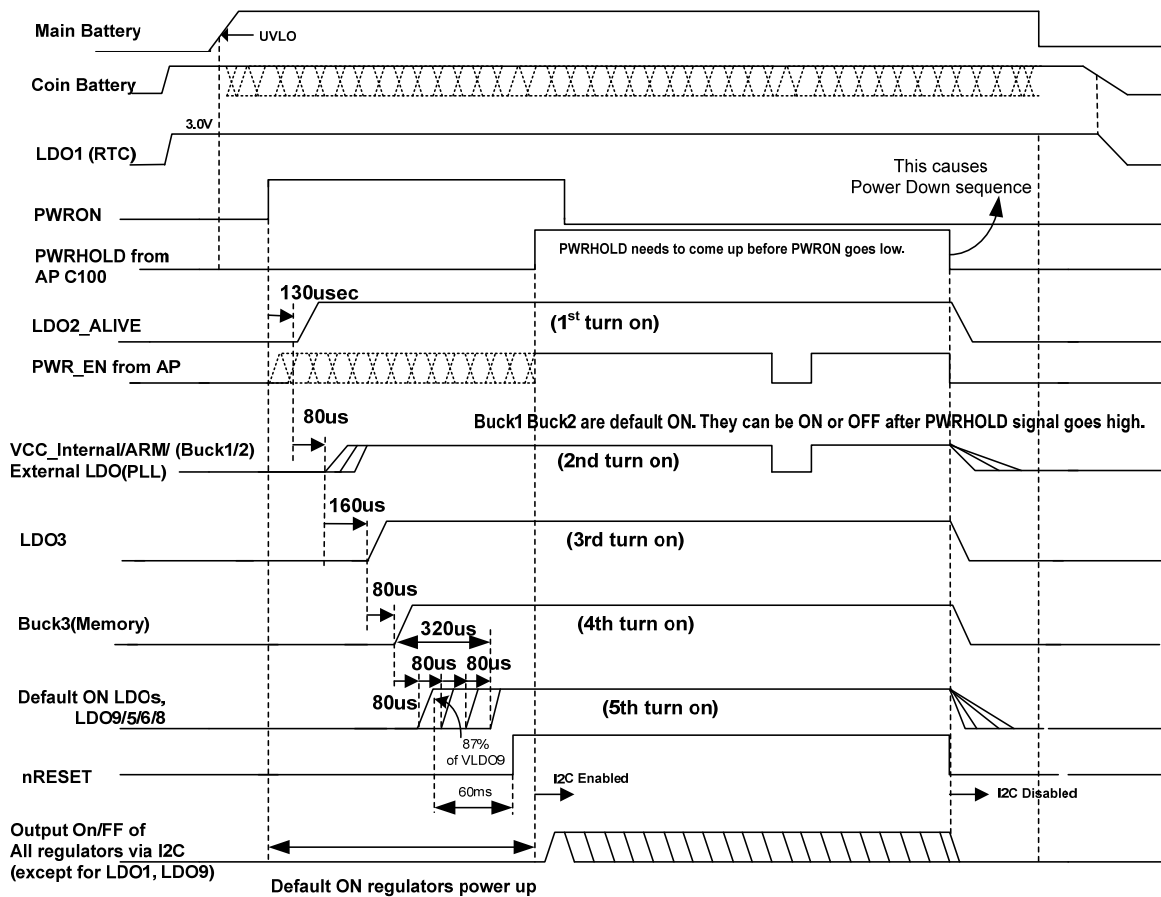
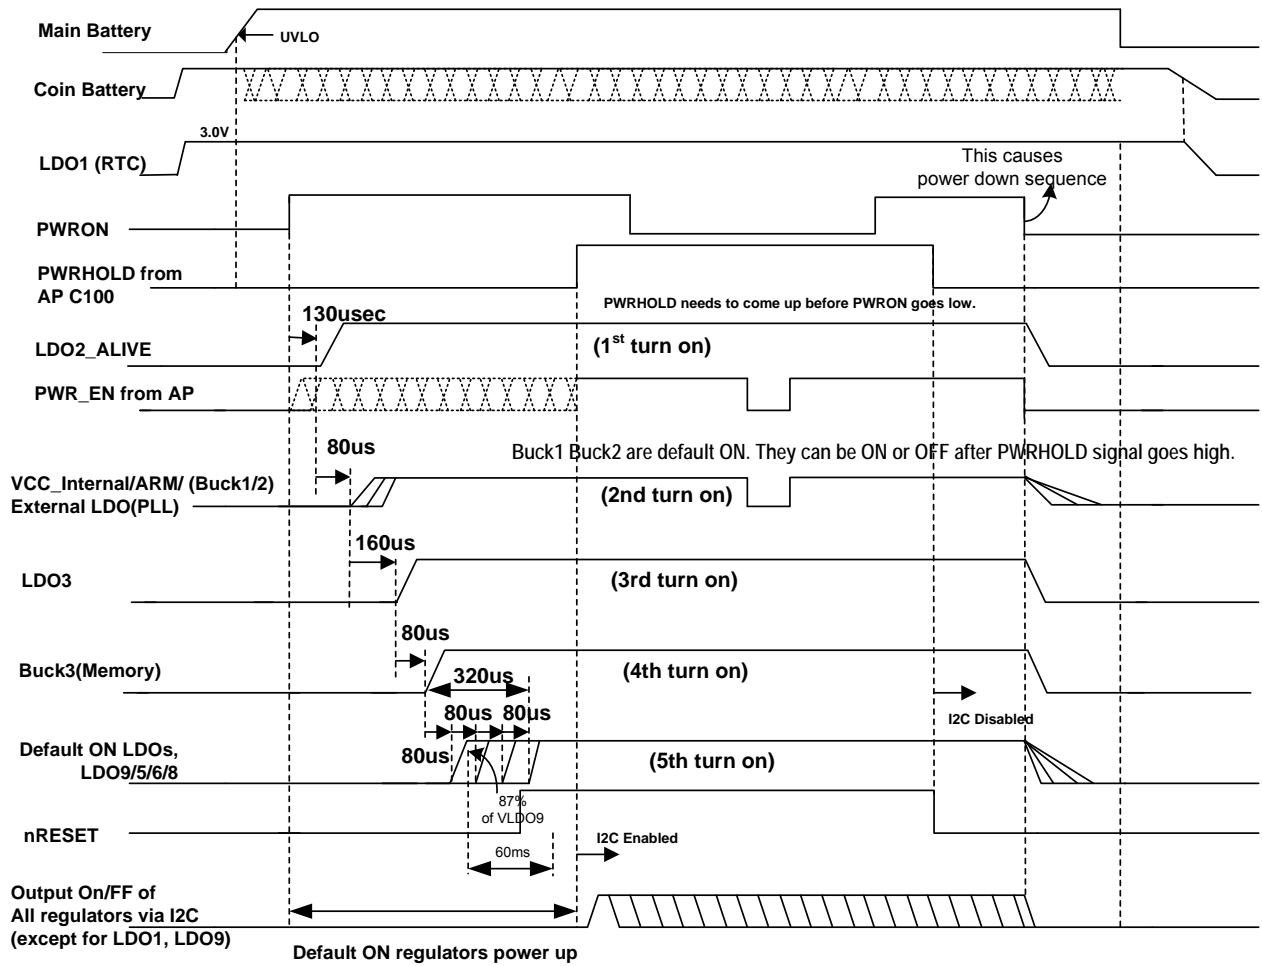

Figure 5. Power up/down sequence
Figure 6. Power up/down sequence
Note that the Samsung S5PC100 processor controls PWRON/SET1/SET2/SET3/PWRHOLD. Buck1/2 and LDO2 are logically connected to ensure Buck1/2 are powered up after LDO2. LDO2 can be enabled /disabled by only I2C during normal operation. See Figure 5 and Figure 6.
After I2C is enabled, all regulators can be enabled or disabled via I2C. In the figure6, LDO4/7 are turned on by I2C and can be turned off individually.
- Falling threshold level on PWRHOLD & Low level of PWRON switch (See Figure 5)
- Falling threshold level on PWRON & Low level of PWRHOLD (See Figure 6)
See Figure 5 and 6